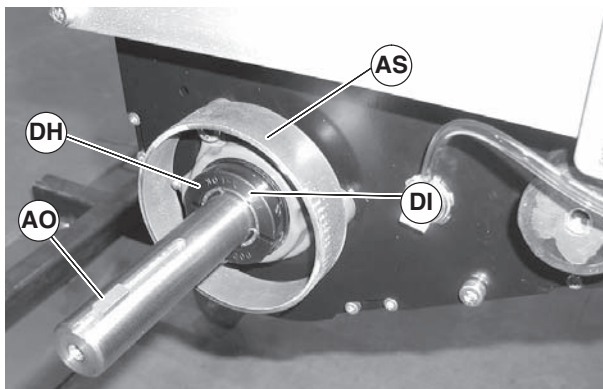

Figure 106
3. Remove spacer ring (Figure 106, item AS) and key (AO). Loosen clamp screw (DH) and remove bearing collar (DI).
7. Reinstall bearing collar (Figure 106, item DI). Tighten clamp screw (DH) to 95 in-lbs (11 N-m).
8. Reinstall key (Figure 106, item AO).